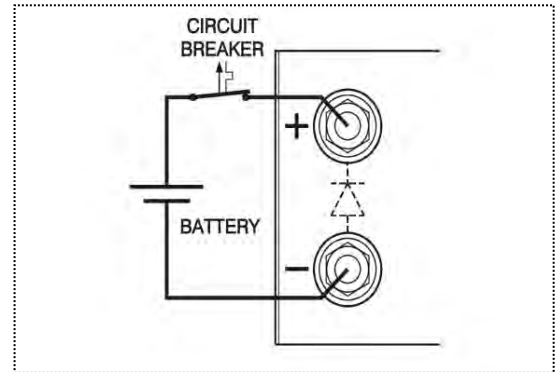

fig. 1
Use a CIRCUIT BREAKER in series in order to protect the power supply from accidental reverse connection, see fig. 1. The circuit breaker should have a DC voltage rating 2x the battery voltage. Use the very fast type (Z), a type meant for protecting semiconductors. The unit has a reverse diode in parallel with the output, this diode and the wiring cannot withstand the thousands of amperes supplied by a wrongly connected battery.